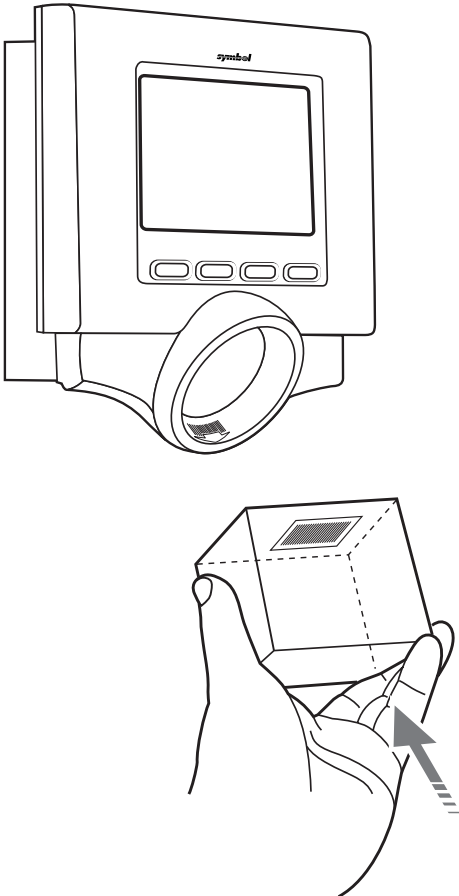

Figure 1-4 Scanning with the MK2200
3. Connect the cables to the MK2200 (see Figure 1-3 on page 1-5) and ensure the cables are routed and secured correctly (see Figure 1-4 on page 1-9). Cables incorrectly mounted or secured can become pinched when the MK2200 is attached to the Connector/Port Cover.